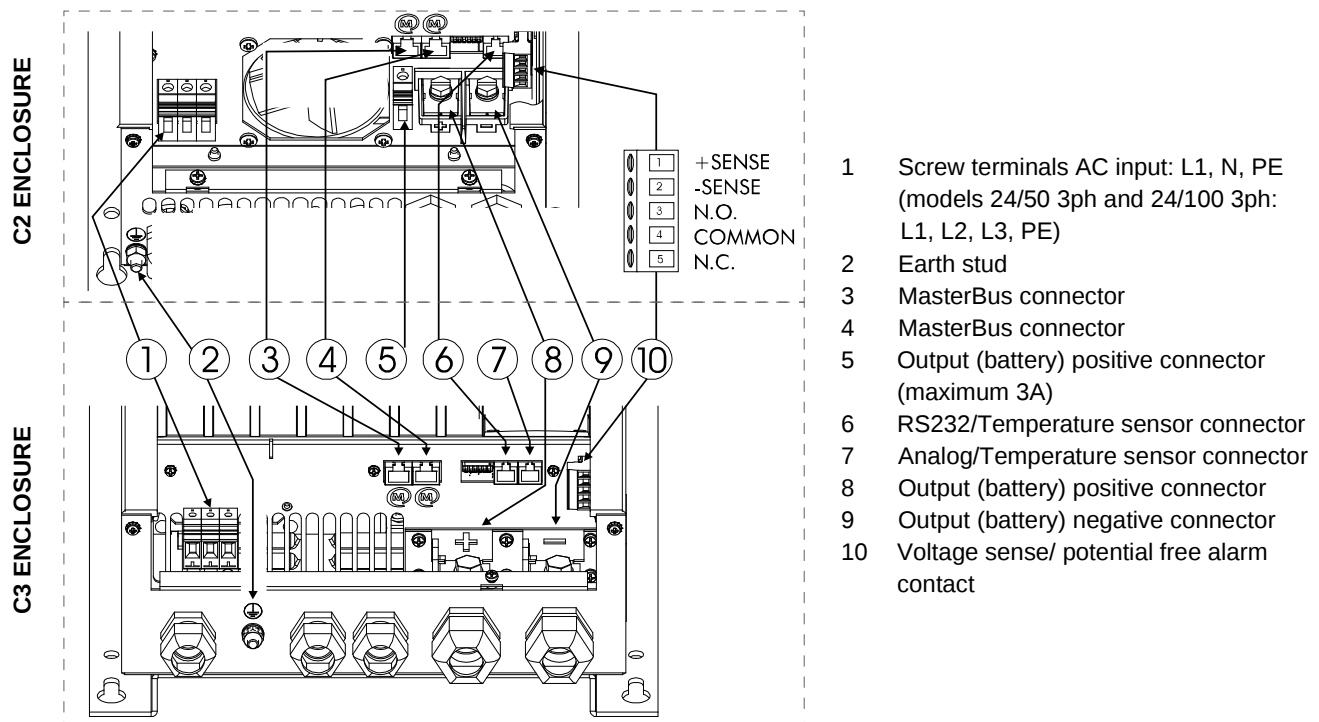

Figure 3. Overview connections Mass Charger
- Connect the plus of the second battery to the +3A terminal of the Mass Charger (Figure 3 and Figure 4).
3. Plug the modular cable into the terminal at the right of the Mass Charger (see Figure 3 on page 9). For the C3 enclosure (refer to specifications) both "RS232" and "analog" are suitable.
2. Connect the wires with the two upper terminals of the green connector at the right side of the cabinet (see Figure 3 on page 9). Pay extra attention to the polarity of the wires, red on +S and black on -S.
To control external equipment, the charger is equipped with a potential free contacts alarm relay; see Figure 3 on page 9. The alarm function has two modes: standard (factory setting) and DC alarm mode (continuous mode). The maximum switch current of the relay is 1A. Exceeding the setpoints will activate the alarm (see page 16).
- 2mm flat blade screwdriver for the sense terminal (see Figure 3, point 10).
- 7 Attach the battery temperature sensor to the casing of the main battery bank. Plug the temperature sensor cable into the “Temp.Sensor” jack. See also Figure 3 on page 9.